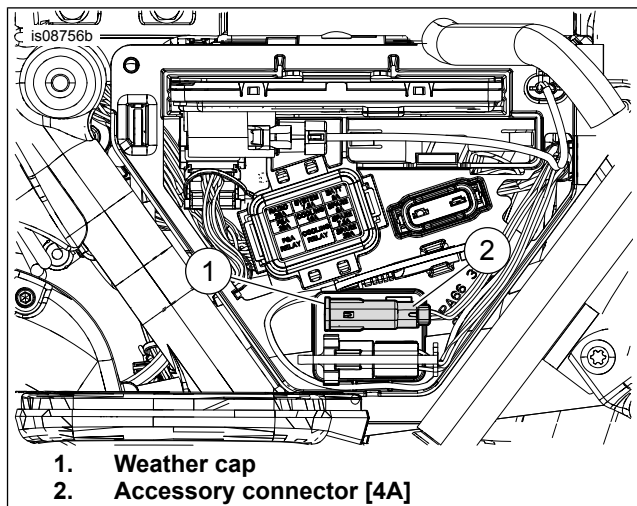

Figure 3. Accessory Connector
9. See Figure 3. Locate P&A four-way Molex, pin side, accessory connector (2) [4A]. The four-way Molex connector and weather cap (1) under the left side cover.